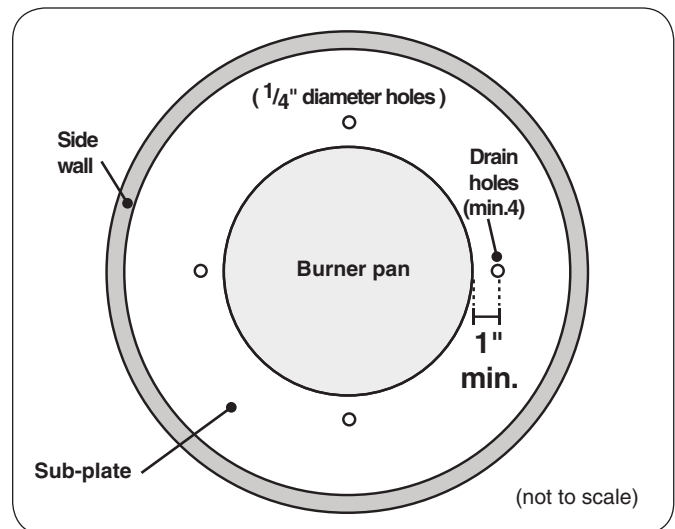
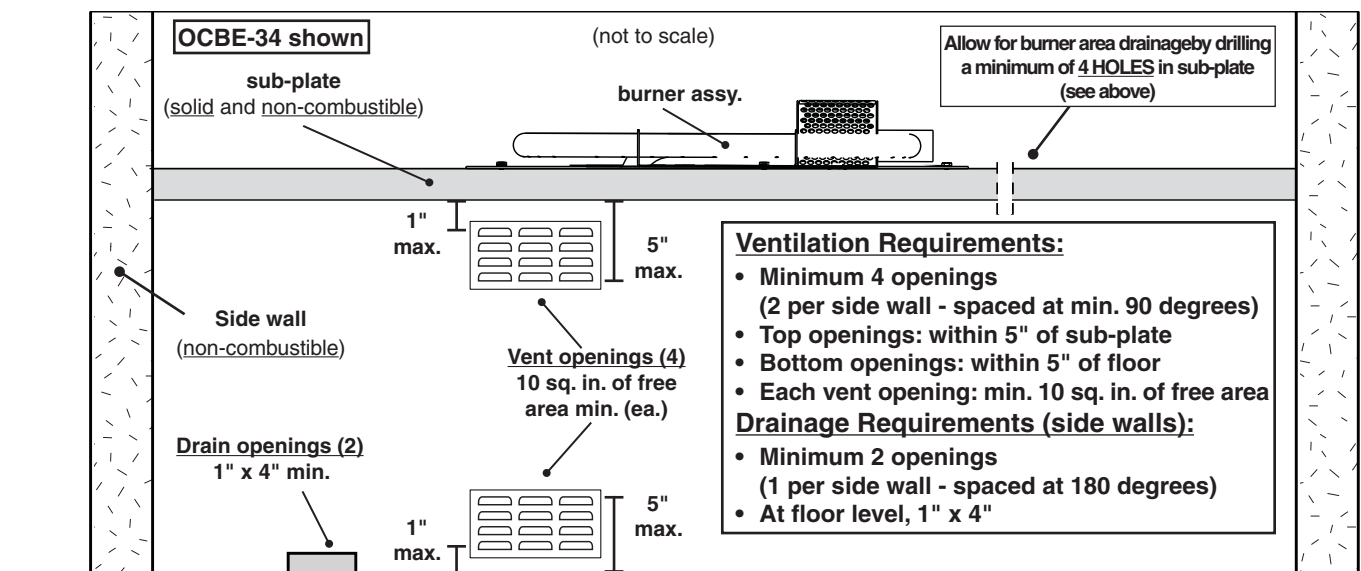

Fig. 12-1 Sub-plate drainage specifications (top view)
Fig. 12-2 Ventilation and drainage specifications (enclosure side view)
Four (minimum) ventilation openings **MUST** be created (reference Fig. 12-2):
Two additional openings (1" x 4") must be created at the floor level (and spaced at 180 degrees) to allow for water drainage. The openings must be equally sized and unobstructed. See Fig. 12-2.
- 4 holes, 90° around burner pan, a minimum of 1" from edge of pan (see Fig. 12-1 and Fig. 12-2)